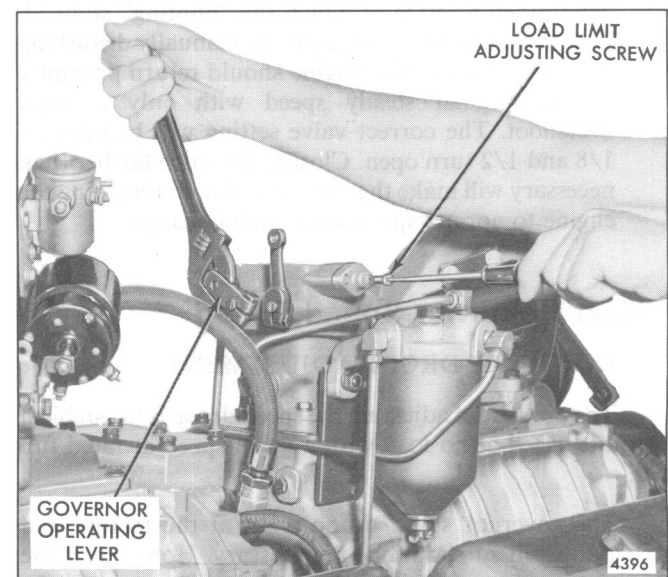

Fig. 8 – Adjusting Load Limit Screw
1. With the governor cover off and the load limit screw locknut loosened, place and retain the governor operating lever in the *full-fuel* position (Fig. 8). Do not overstress the linkage.